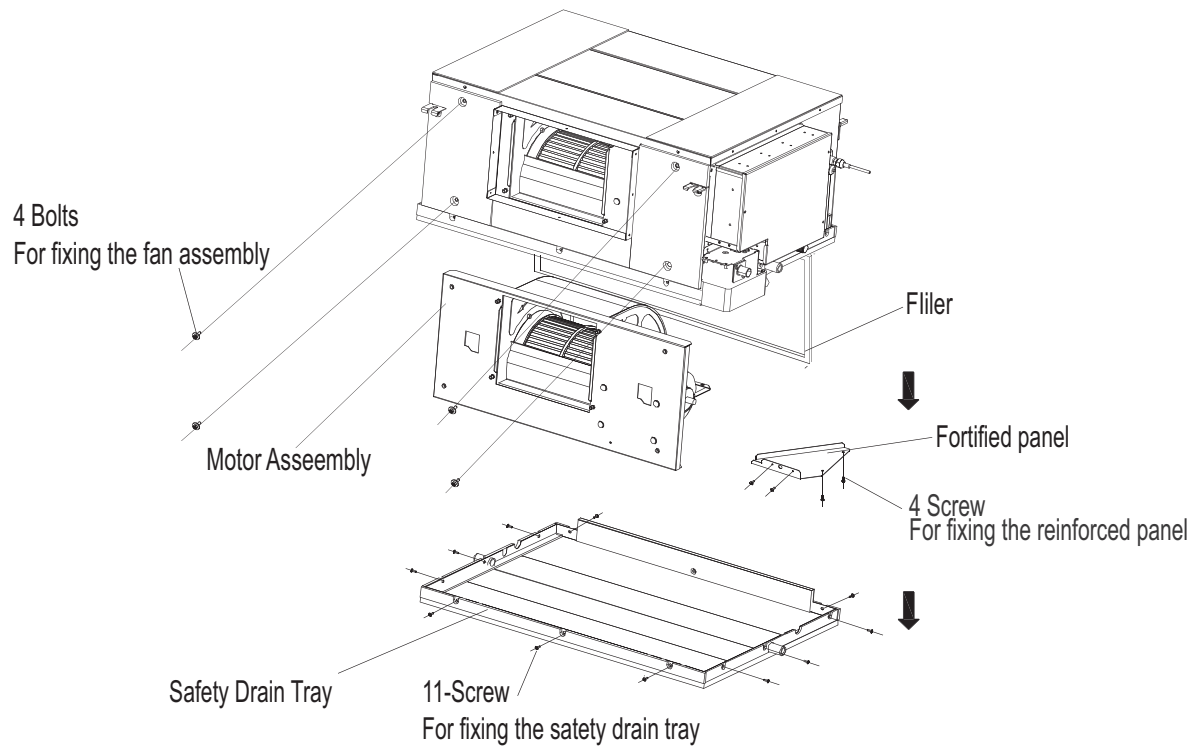

Fig. 37 —Fan Disassembly (024-036)
1. Horizontally push the fan assembly until it cannot move any further. See Fig. 37.